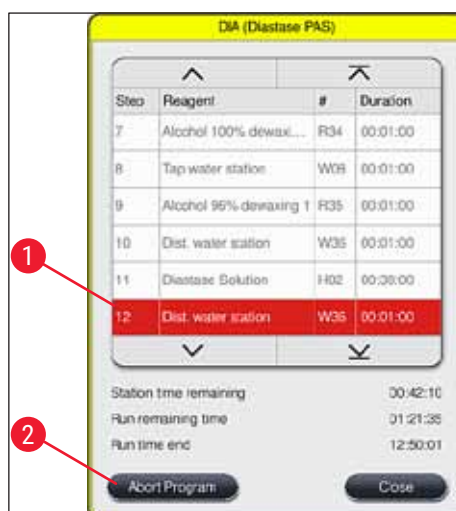

Fig. 90
2. A list of program steps (→ "Fig. 90") appears; the current step is marked in red (→ "Fig. 90-1").